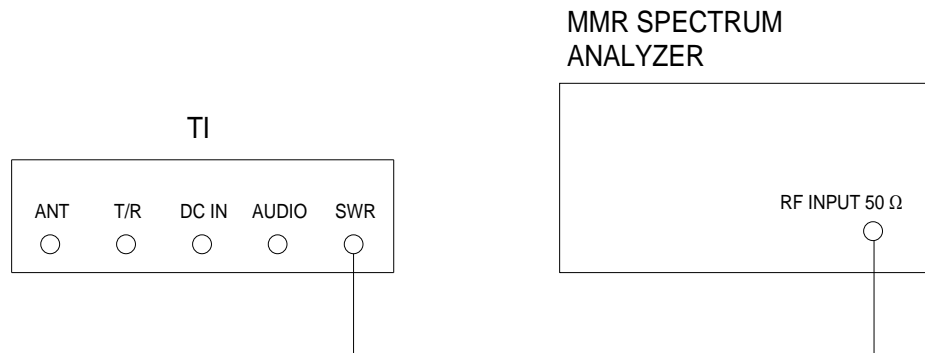

Figure 1.
4.2.3.1 Connect equipment as shown in Figure 1.